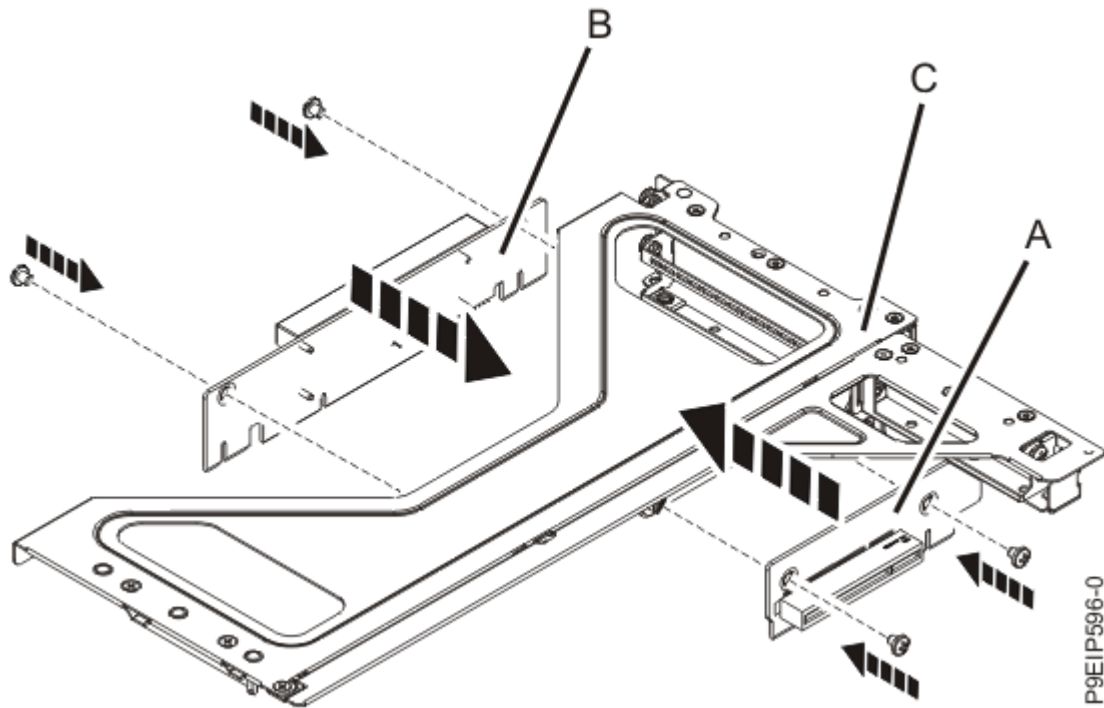

Figure 29. Replacing the PCIe riser cards in the PCIe adapter cage
5. If you need to replace the PCIe riser card **(A)** or **(B)**; replace the screws that secure the PCIe riser card to the PCIe riser support **(C)** as shown in Figure 29 on page 35.